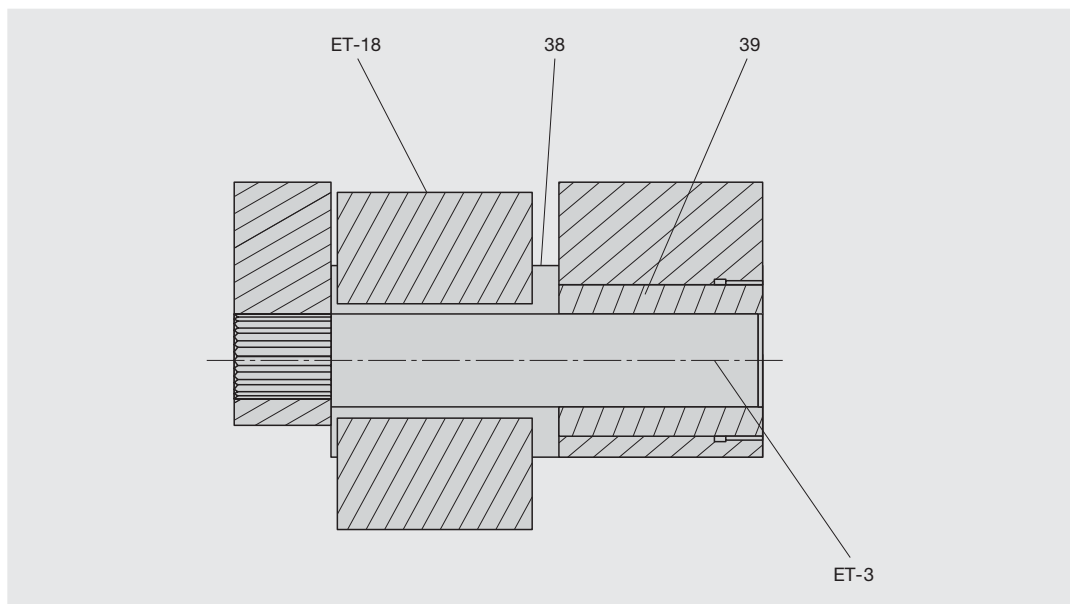

Fig. 21: Kit for knurling and burnishing
b) To modify an existing tangential rolling head, proceed as follows (see also Fig. 21):